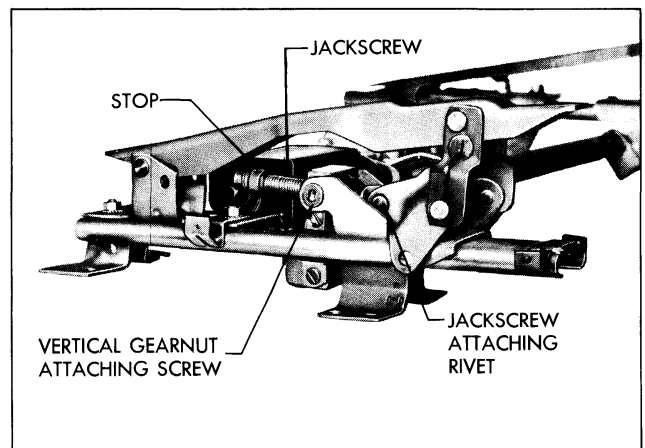

Fig. 22-6 Outboard Bucket Seat Adjuster
3. Using a clutch type screwdriver or other suitable tool, remove shoulder screws securing linkage to vertical gearnut. (Fig. 22-6).
4. Remove jackscrew "down" stop from jackscrew (Fig. 22-6).
3. As a bench operation, remove jackscrew-to-adjuster linkage attaching rivet and remove jackscrew from adjuster (Fig. 22-6).